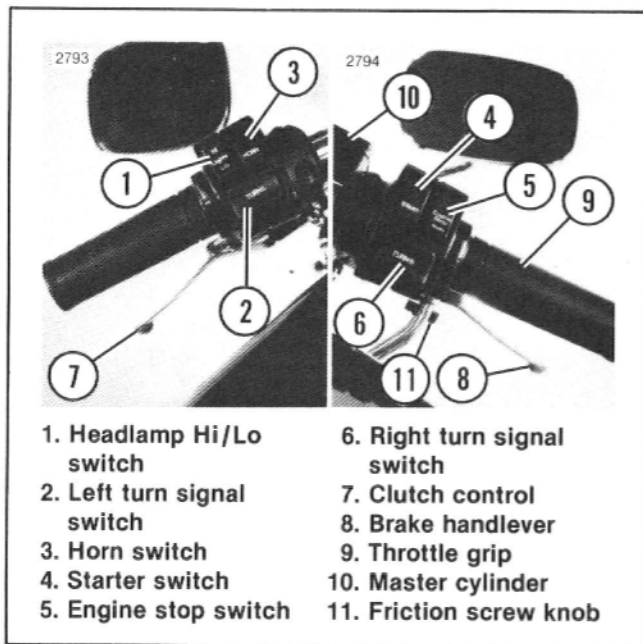
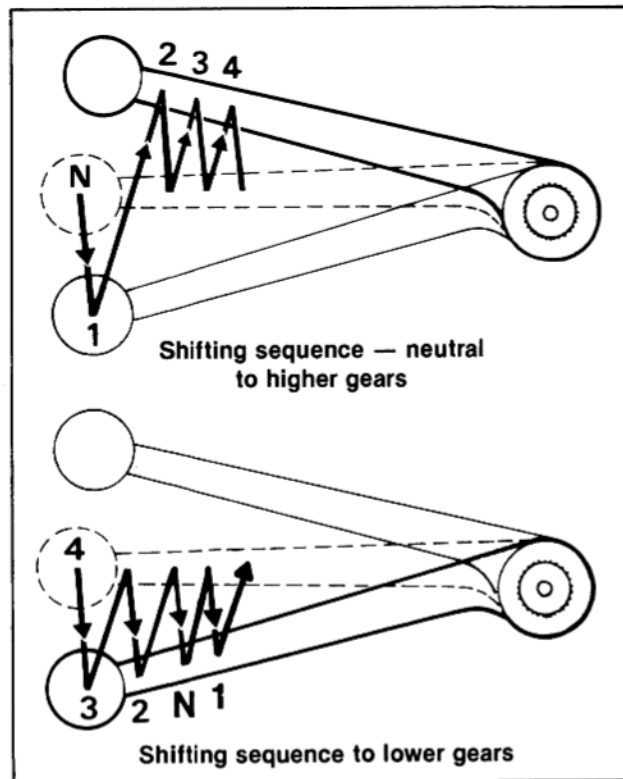
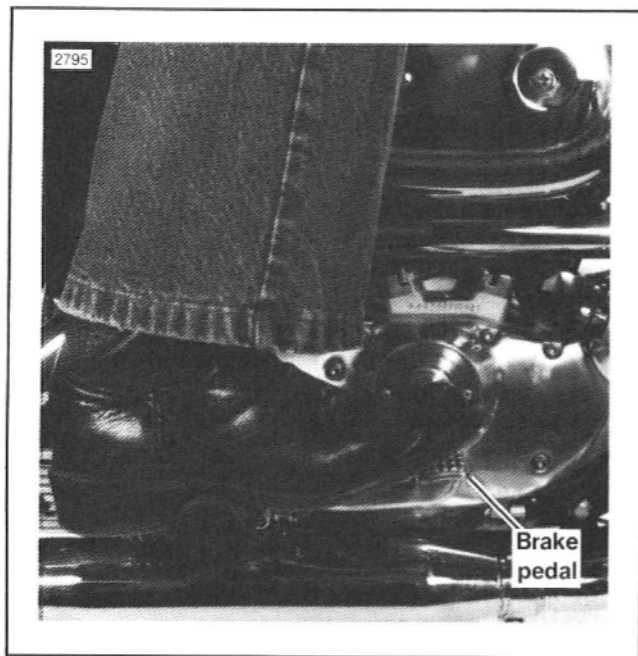

Figure 7. Handlebar Controls
Figure 8. Shifting Sequence
Figure 9. Brake Pedal
See Figure 7. The starter switch (4) is located on the right handlebar controls. With ignition on, engine stop switch (5) in RUN position and transmission in neutral, push START switch to operate starting motor.
See Figure 7. Rocker switch (5) is located on the right handlebar controls. The engine stop switch turns ignition on or off and should be used at all times to stop the engine, especially in an emergency. To stop engine, push switch to position marked OFF.
See Figure 7. The throttle control grip (9) is located on the right handlebar controls. Turn control grip clockwise to close throttle; turn control grip counterclockwise to open throttle.
See Figure 7. The clutch hand lever (7) is located on the left handlebar where it may be operated easily with the fingers of the left hand. Pull lever in against handlebar grip to disengage clutch; release the lever slowly to its outward position to engage clutch.
See Figure 7. To start moving with motorcycle upright and engine idling, pull the clutch lever (7) to fully disengage clutch. See Figure 8. Push shifter lever down firmly but gently to end of its travel to engage first gear. Then release the clutch lever slowly to engage the clutch and at the same time, open throttle gradually.
See Figure 9. The brake pedal controls the rear wheel brake and is located on the right side where it is operated by the right foot. See Figure 7. The brake hand lever (8) controls the front wheel brake and is located on
See Figure 7. The turn signal switch (6) operates the right front and right rear flashing lamps. The turn signal switch (2) operates the left front and left rear flashing lamps. Front turn signal lamps also function as running lights.
See Figure 7. The headlamp dimmer switch (1) on the left handlebar controls the headlamp high and low beams.
See Figure 7. The horn is operated by the horn switch (3) on the left handlebar control.